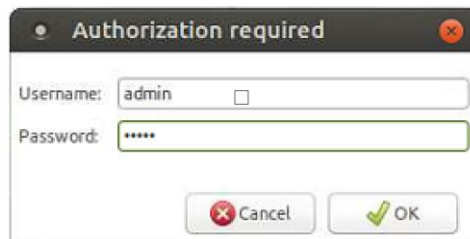

Figure 44: User Login Dialog
- b. Enter the password a username (both are **admin**) and click **OK**. Figure 44.